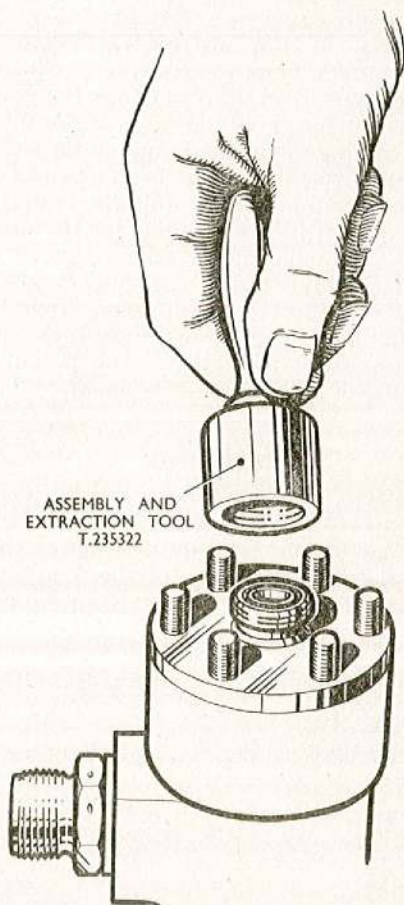

Fig. 2. Using the assembling and extraction tool
14. With the spring housing uppermost, unlock and remove the adjusting screw locknut. Remove the adjusting screw from the spring housing cover and screw in the extraction tool T.235322 (*fig. 2*). Unscrew the six retaining nuts, remove the grover washers and shim washers and, with a firm straight pull, withdraw the cover plate and seals. Unscrew the ten retaining nuts at the opposite end of the unit, remove the grover washers and shim washers, slide off the distributor cover and withdraw the sealing ring.